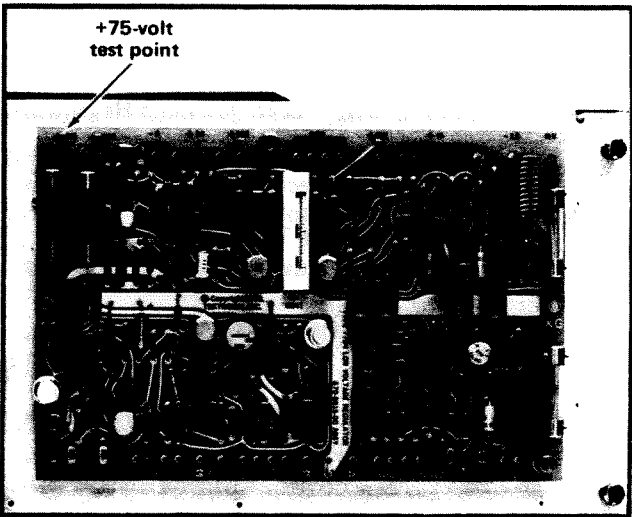

Fig. 5-2. Location of +75 volt test point on power supply regulator circuit board.
- b. Connect the precision DC voltmeter between the +75 volt test point (see Fig. 5-2) on the power supply Regulator circuit board and ground.